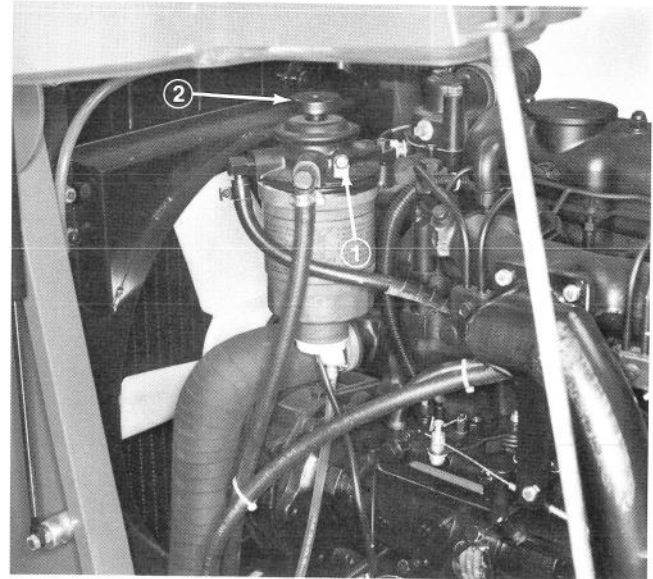

Figure 13
2. Loosen fuel filter bleed plug one turn (Fig. 13). Push priming plunger (Fig. 13) until a steady stream of fuel runs out of hole in plug. When fuel stops foaming, tighten plug during the downstroke of the priming plunger. Wipe up any spilled fuel.